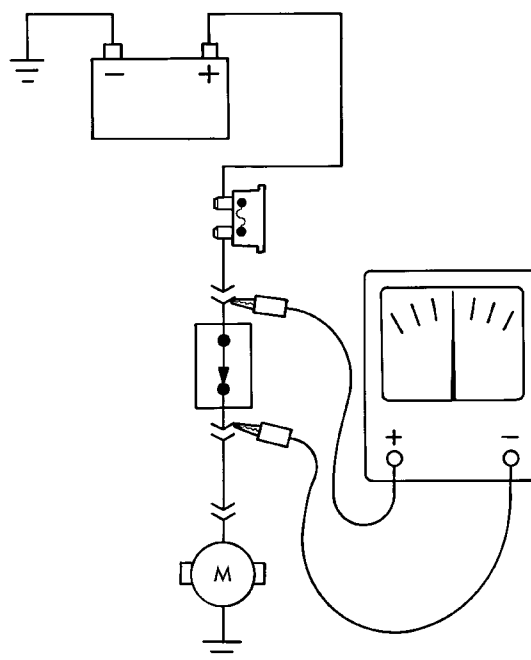

Fig. 12 Testing for Voltage Drop
(1) Connect the positive lead of the voltmeter to the side of the circuit closest to the battery (Fig. 12).
(2) Connect the other lead of the voltmeter to the other side of the switch or component.
(3) Operate the item.
(4) The voltmeter will show the difference in voltage between the two points.